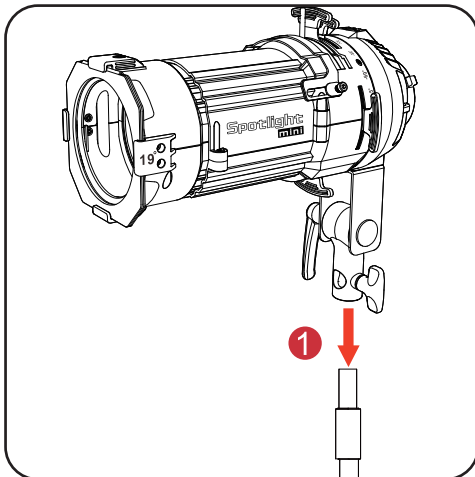

Figure 1
- 1) Mount the Spotlight Mini onto a compatible light stand in **Figure 1**.